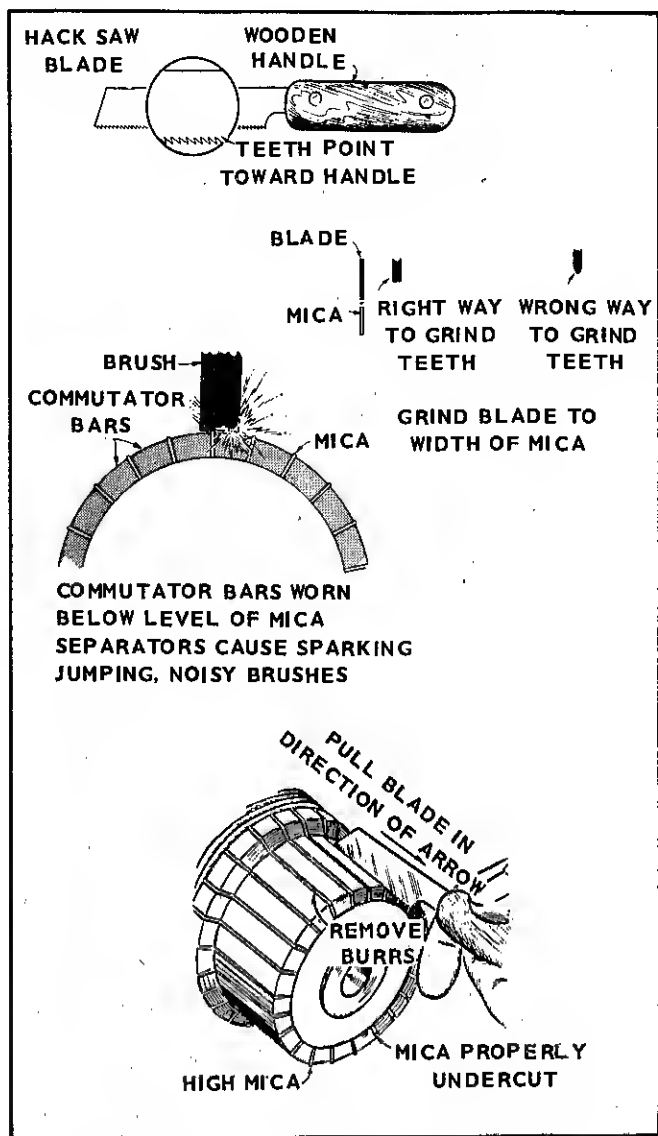

FIGURE 89. CORRECTING HIGH MICA CONDITION
**Commutator Repair:** The commutator bars eventually wear down so the mica between them extends over the tops of the bars and causes sparking and noisy brushes. When the mica on any part of the commutator is touching the brushes it must be undercut. A suitable undercutting tool can be made from a hacksaw blade (Fig. 89). Cut the mica to about 1/32" under the bars. Be careful not to damage the bars. After undercutting, remove any burrs formed on the bars.